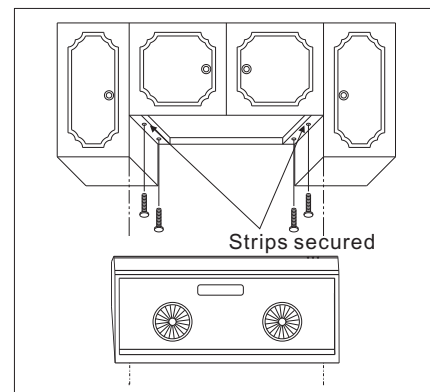

Fig.7
- c. Position the strips on the cabinet bottom and screw the strips securely to the cabinet (Fig.7)
- a. The six keyhole mounting slots for the hood. Mark these onto the bottom of the cabinet; or, if the cabinet bottom is recessed. Onto the wood strips (Fig.7)
4. Screw the four 1" wood screws (for mounting the hood) into the exact center of the arrow and of the keyhole mounting slots marked on the cabinet bottom (for flush installations), or marked on the 1"x2" wood strips (for recessed cabinet installation) (Fig.7)